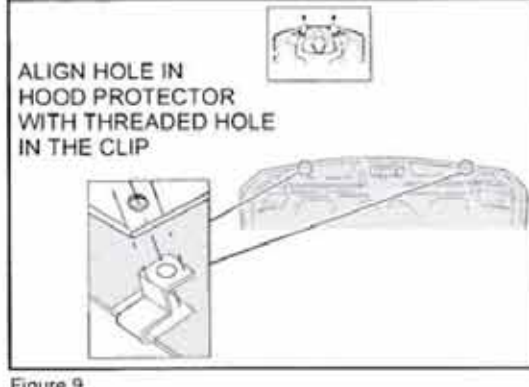

Figure 9.
9. Re-Install the Hood Protector onto the hood and align the holes in the Hood Protector with the threaded holes in the clips. It may be necessary to slide the center clip left to right to align the threaded hole with the Hood Protectors hole. As shown in figure 9.